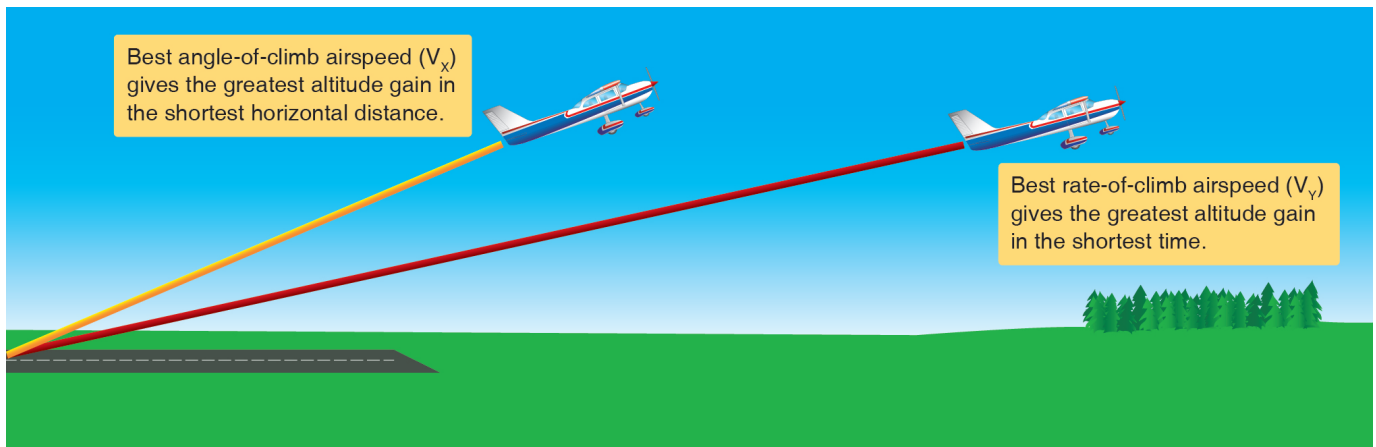

Figure 3-19. Best angle of climb versus best rate of climb.
- Best angle of climb (V_X)—performed at an airspeed that produces the most altitude gain over a given horizontal distance. The best angle of climb results in a steeper climb, although the airplane takes more time to reach the same altitude than it would at best rate of climb airspeed. The best angle of climb is used to clear obstacles, such as a strand of trees, after takeoff. *[Figure 3-19]*